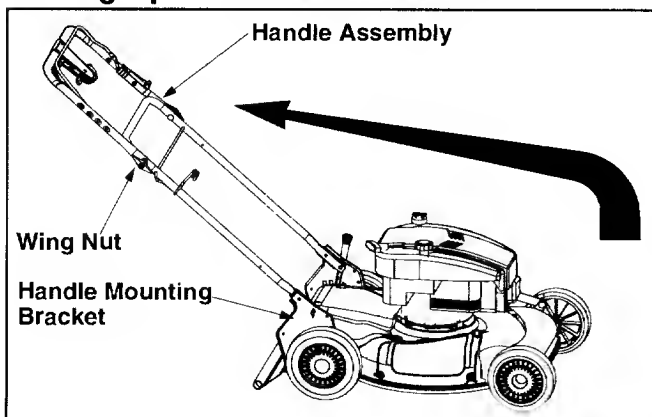

Figure 2
- Lift up and pull back on the upper handle to raise the handle into the operating position. Make certain the lower handle is seated securely into the handle mounting brackets. Tighten the wing nuts on each side of the handle (carriage bolts must be seated properly into the handle) See Figure 2.